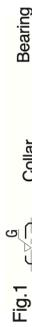

Fig.1
- Pass completely through the shaft while pressing the bushing flange against the gear before tightening. Removal will not be possible, so be sure to leave a clearance of 1mm or more on the gear rear surface side. (Fig.1)